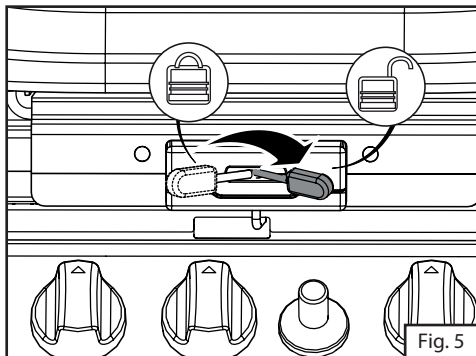
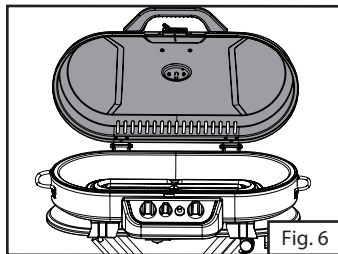

Fig. 5
Fig. 6
3. Move the lid latch to unlock position and open the lid. (Fig. 5 and Fig. 6)